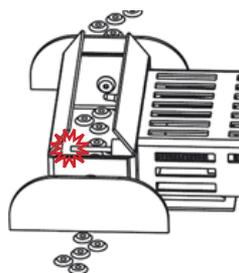

Figure C.6
- Test system by pushing the button on the igniter. See Figure C.6